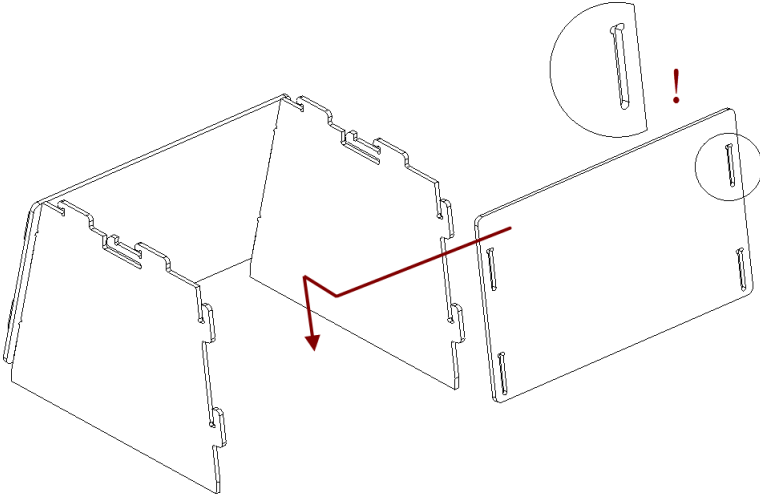

Figure 207: Assembling the back wall.
2. Install the back wall in the same way (see Figure 207).